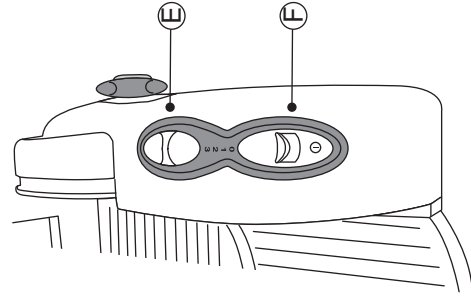

fig. 6
4. In order to turn on the Food Slicer slide the ON/OFF Button **E**, from 0 to 3. 0 is "off" 3 is "Maximum". Then push the Safety Button **F**. **See fig. 6.**
5. Set the On/Off Button **E** to 1,2,3 which relates to Slow, Medium, Max Blade Speed. Adjust depending on your requirements. **See fig. 6.**